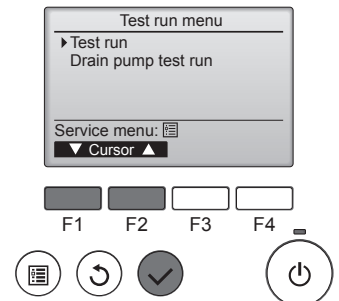

Fig. 8-2
- ② Select "Test run" from the Test run menu, and press the [SELECT] button. (Fig. 8-2)
- ③ The test run operation starts, and the Test run operation screen is displayed.